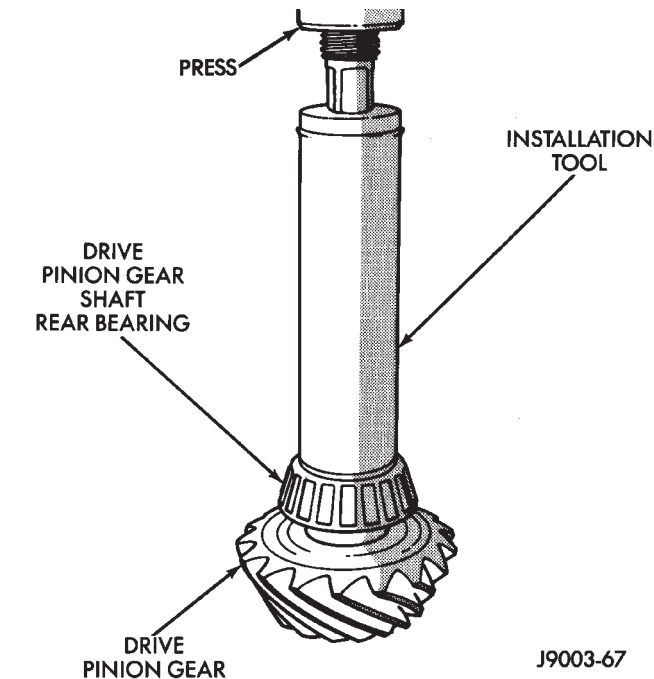

Fig. 55 Shaft Rear Bearing Installation
(7) Place the proper thickness depth shim on the pinion gear.
(8) Install the rear bearing and slinger, if equipped, on the pinion gear with Installer W-262 (Fig. 55).